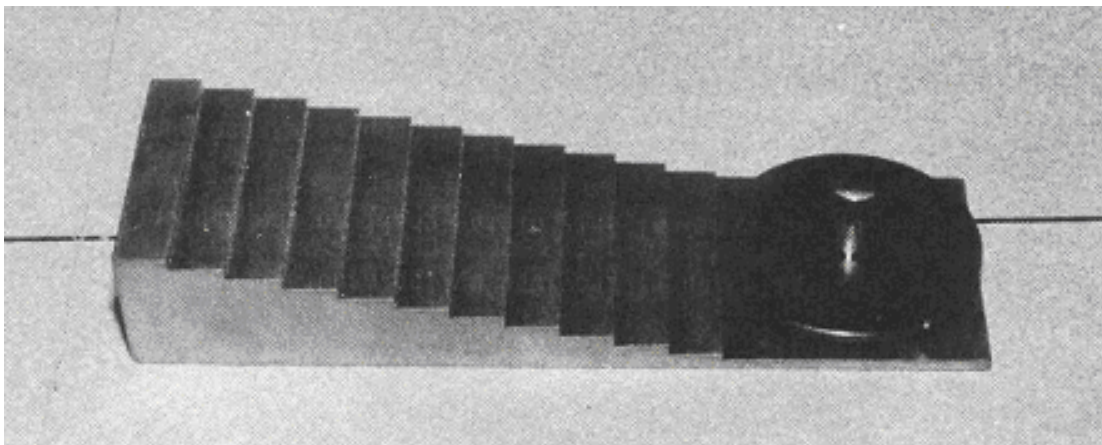

Figure 4-6. Spin top test tool.
**NOTE:** A manual spin-top test may be used to check the timing system of single-phase equipment ONLY. A spin top cannot be used on three-phase equipment, but an electronic timer can be used on BOTH types of units (see figure 4-6)